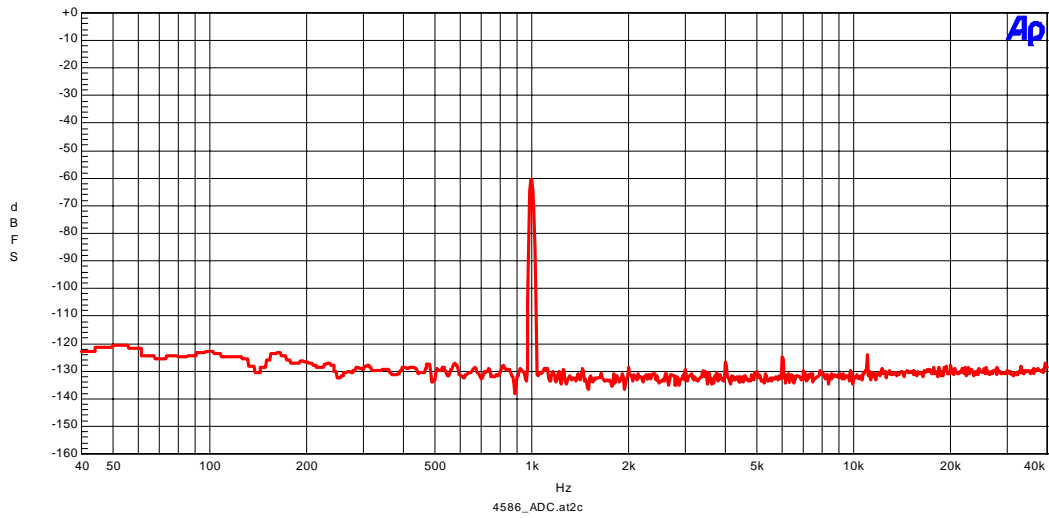

Figure 2-2. FFT (1kHz, -60dBFS input)
- Figure 2-2. FFT (1kHz, -60dBFS input)